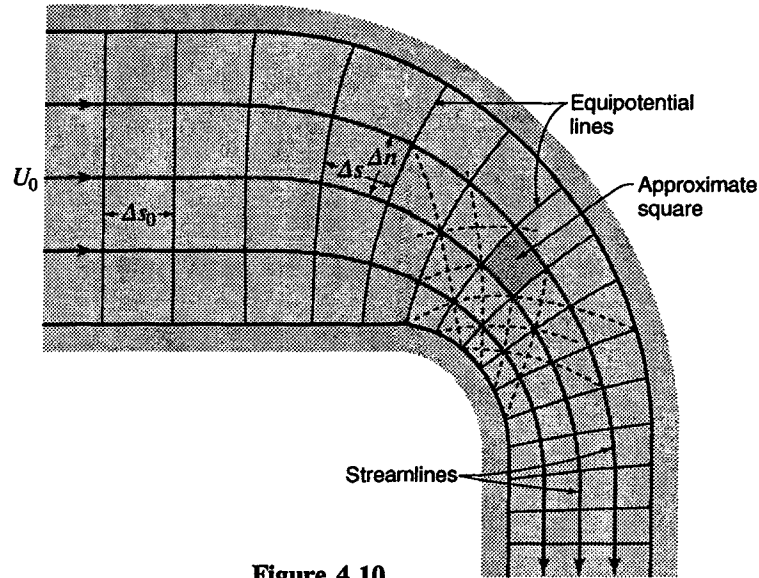

Figure 4.10
4.17 The steady flow rate in each of the four stream tubes of Fig. 4.10 is 15 cfs per foot perpendicular to the plane of the figure. By scaling, the dimensions of the shaded "square" have been found to be 1.65 ft wide on the upstream face, 1.53 ft wide on the downstream face, and 1.67 ft along the flow line through its center; the radius of that flow line measures 11.1 ft. Find the normal, tangential, and resultant accelerations of a fluid particle at the center of the shaded area.